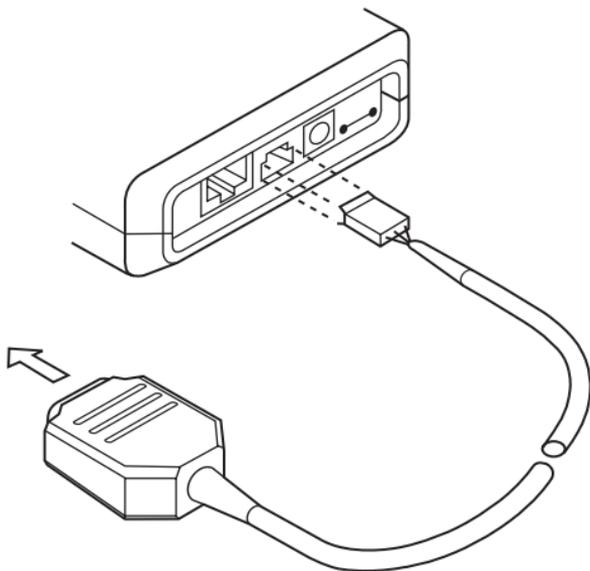

Figure 5-1. Connecting Terminal Cable to COM Port with a 9-Pin Connector.
2. Connect the other end of the cable to a serial port of a PC (COM Port); see **Figures 5-1** and **5-2**.